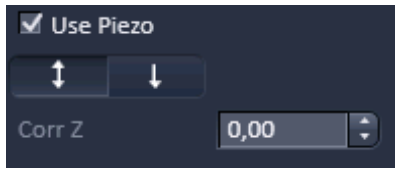

Fig. 79 Use Z-Piezo stage for Z-Stack acquisition – appearance for the LSM imaging mode
- Define the first and last slice using **First/Last** mode. Activate **Piezo** mode (Fig. 79). The total Range of the Z-Stack is limited to 250 µm when using the Piezo device. Adjusting the value for **Number of Slices** or **Interval** is independent from each other and affects the Range of the stack. The Focus Position is not changed.